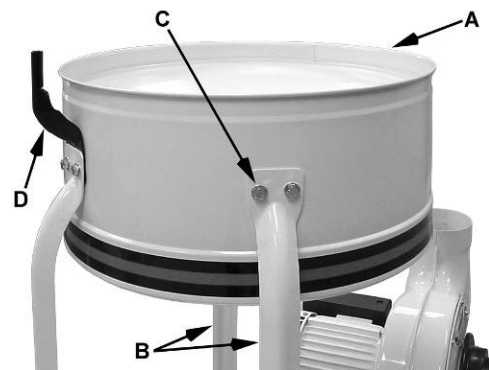
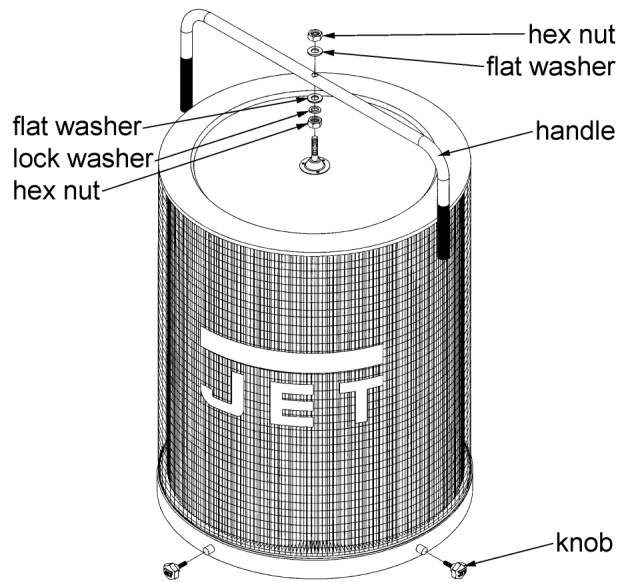

Figure 5
Figure 9
6. Install the *housing* (A, Fig. 5) to two *support legs* (B, Fig. 5) using four M8 x 16 hex cap bolts, eight M8 flat washers, and four M8 hex nuts (C, Fig. 5). Be sure hose opening faces fan housing.
Note: For model DC-1100BK only – Before attaching third support bracket place the *hanger bracket* (D, Fig.5) between the support bracket and the housing.
1. Mount the handle onto the canister filter with two M10 hex nuts, two M10 flat washers, and a M10 lock washer (Figure 9).
2. Mount the canister filter on top of the *collector housing* (A, Fig. 5) and tighten the knobs on the *canister filter* (Figure 9).